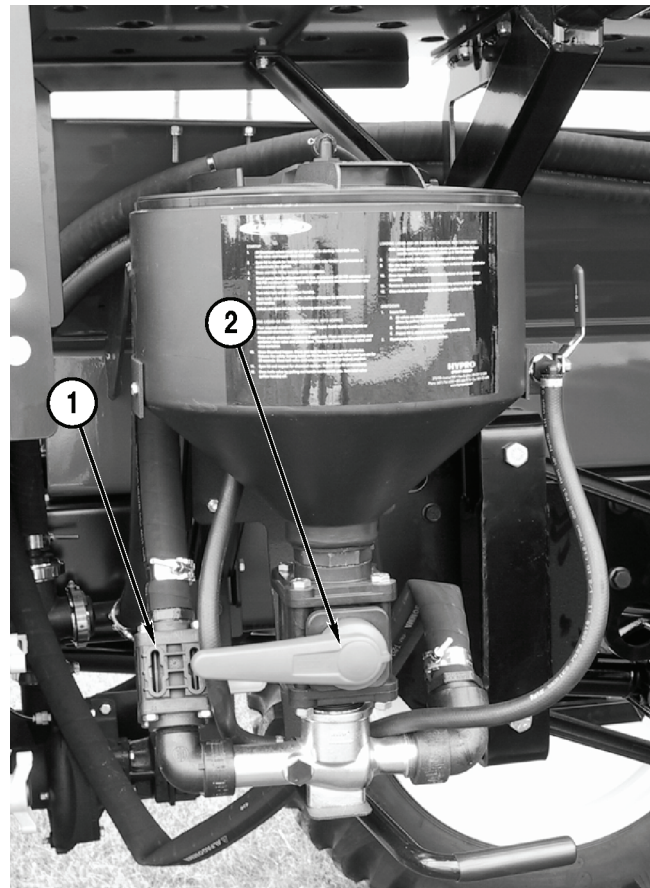

Figure 4-43
1. All Cleanload valves must be closed prior to starting. Close the inlet ball valve (**Figure 4-43, 1**) and hopper ball valve (**Figure 4-43, 2**).
5. Turn the yellow handle of the inlet ball valve (**Figure 4-43, 1**) to the OPEN position.
6. Open the hopper ball valve (**Figure 4-43, 2**), located on the bottom of hopper, by rotating the handle into a vertical position.
8. Close the hopper ball valve (**Figure 4-43, 2**) by rotating the handle into a horizontal position (shown).
9. Turn the inlet valve (**Figure 4-43, 1**) (yellow handle) off.